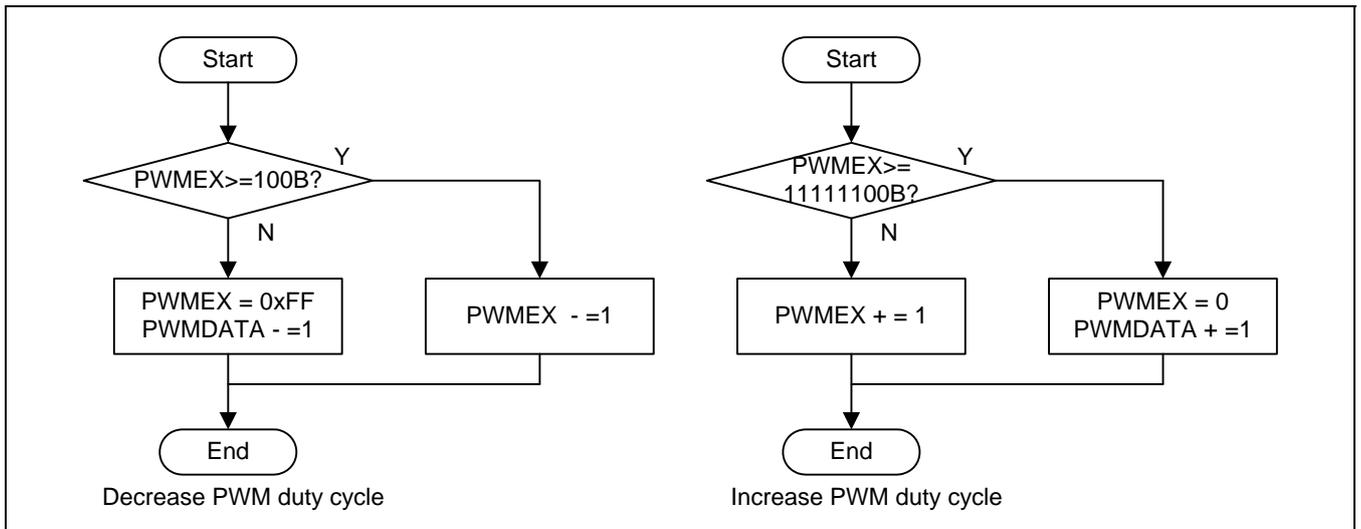

Figure 3-2 Way to change PWM duty cycle
| Figure 3-2           | Way to change PWM duty cycle.....                                          | 14                 |
- Way to change the PWM duty cycle: The duty cycle is the result of both the register values of PWMDATA and PWMEEX. Therefore, any increase or decrease in register from PWMDATA will not change the duty cycle. For more details on register PWMEEX, refer to the S3F84P4 User's Manual. Figure 3-2 shows the right way to change the PWM duty cycle.